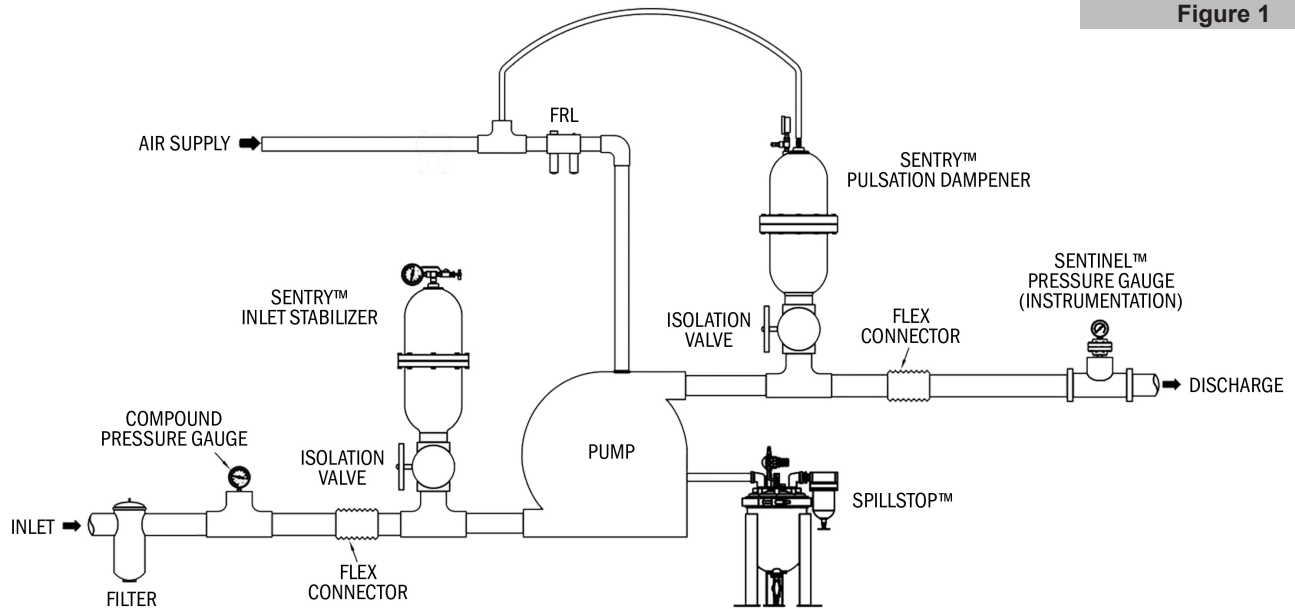

Figure 1
Install the dampener as close to the pump inlet as possible and after any upstream equipment such as risers, valves, elbows, meters or filters. Dampener installation should be no more than ten pipe diameters from pump inlet. If using a flexible connector on the inlet side of the pump between the system piping and pump, the dampener should be installed on a tee at the pump inlet manifold. The flexible connector should be attached to the dampener's tee and system piping (see Figure 1). A compound pressure gauge should be installed upstream of the dampener to aid in proper dampener adjustment.
2. Turn the pump on and observe the changes in pressure on the compound pressure gauge at the pump inlet (Figure 1).